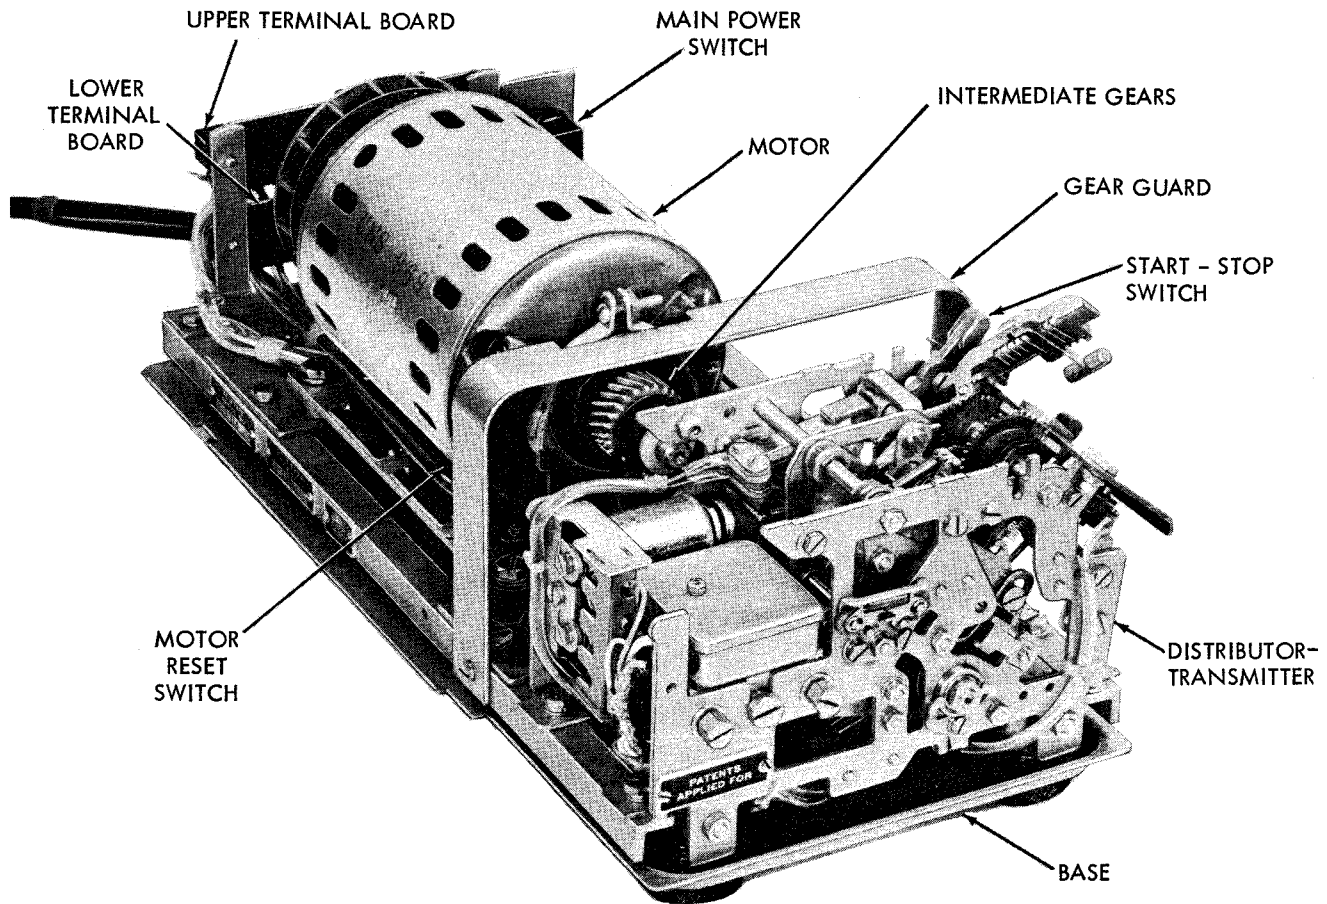

Figure 1-3. Distributor-Transmitter TT-187/UG, Cover and Cover Plates Removed
b. BASE (TT-187/UG) OR MINIATURIZED BASE (TT-187A/UG). (See figures 1-3 and 1-4.)
(1) A flat metal stamping serves as a stand, drip pan and mounting support for the distributor-transmitter. Four triangular telephone type mounting feet are attached to the bottom of the base plate. Supports and brackets for operating mechanisms are suspended above the base plate on three rubber shock mounts
(2) TT-187/UG (figure 1-3). — This distributor-transmitter is furnished with a full size base equipped as described in paragraph 1-3b(1). This base is designed for mounting the full size cover and large motor and is therefore not interchangeable with the base used on miniaturized equipment.
c. MOTORS. (See figures 1-3 and 1-4.)
(1) GENERAL. Each distributor-transmitter is a motor driven by a self-contained 115 V a.c. synchronous motor. The motor is designed to operate at 3600 r.p.m., and variations in operating speed are obtainable through changes in intermediate gear mechanisms. Power from an external power supply to the motor is controlled through a main power switch located on the base. There is a push-button type thermal switch (figure 1-3) on the motor as protection against overload. The standard motor (TT-187/UG) and the miniaturized motor are operationally similar but differ in size and weight. They are not interchangeable.
(2) TT-187/UG (figure 1-3). — The motor furnished with this distributor-transmitter 1/20 h.p., 115 V, 60 cycle a.c. wound stator, two pole, single phase, capacitor start synchronous motor. A combination handwheel and fan is mounted on one end of the motor shaft. A motor-starting relay and capacitor, together with the thermal cutout switch are mounted in a compartment on the underside of the motor. The thermal cutout switch (manually reset) serves to protect the motor windings from excessive heating. The motor proper is supported by a cradle to which it is held by straps at each end. Resilient mounts on the hubs of the motor end bells reduce transmission of vibration to the base.
d. DISTRIBUTOR-TRANSMITTER. (See figures 1-3 and 1-4.)
(1) Different distributor-transmitters are used in TT-187/UG and TT-187A/UG to accommodate the equipment to differences between the standard and the miniaturized base. The operating features of the two distributor-transmitters are identical.
(2) Each distributor-transmitter is a mechanical tape reader designed to convert coded messages stored on standard five-level chadless or fully perforated tapes to signaling code combinations for transmission in a telegraph channel. A main shaft powered by the motor through intermediate gear connections operates a cam-clutch assembly. The cam-clutch, through a main bail, drives a transfer mechanism and a signal generating mechanism and a tape feed wheel. The clutch is released by a clutch trip magnet assembly.
(4) Electrical connections to the signal generator are made to the external signal line through the base. The equipment is designed to operate on either 0.060 or 0.020 ampere circuits. Normal operation is on a neutral circuit, but the equipment is wired for easy conversion to polar operation. Transmission speed can be 368, 400 or 600 o.p.m. (60, 75, or 100 w.p.m.) depending upon optional gear ratios selected in the intermediate gear mechanism.
(5) TT-187/UG (figure 1-3). — Distributor-Transmitters TT-187/UG are designed to extend the cable connections from the distributor-transmitter directly to the upper terminal board of the base. There are no connectors or receptacles on the distributor-transmitter and base, respectively. The distributor-transmitter has no provision for activating a line shunt switch.